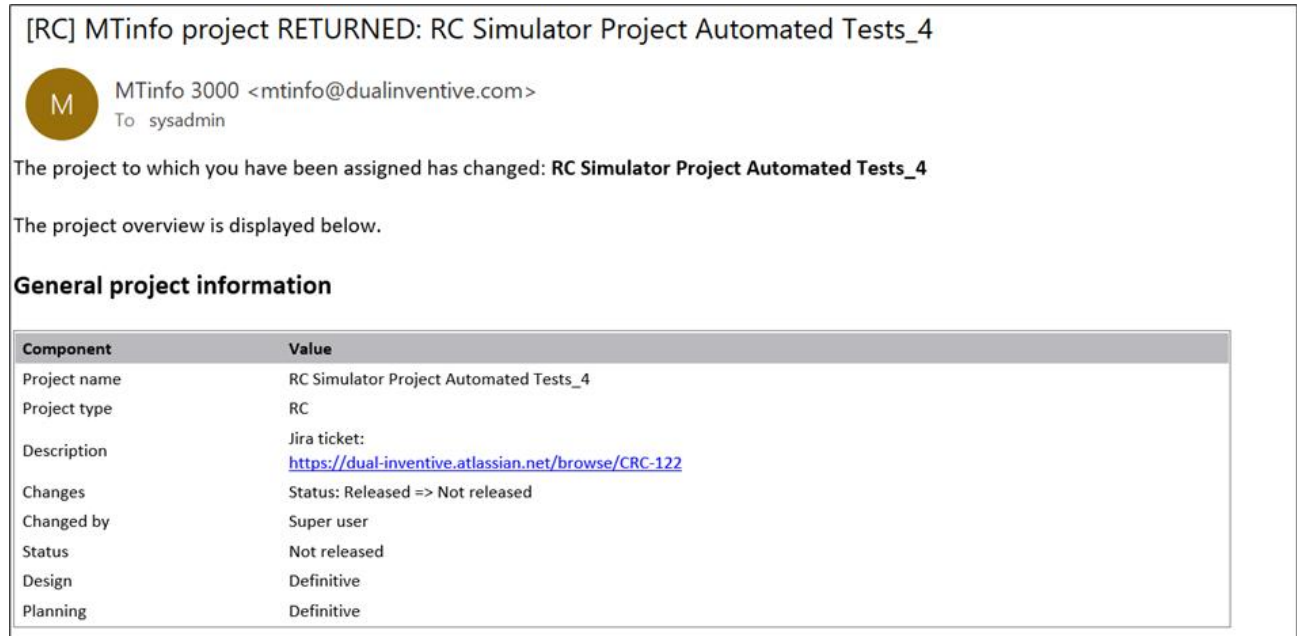

Figure 11 Sample notification email of return project
1. Go to the Dashboard (Figure 11) and click Companies.